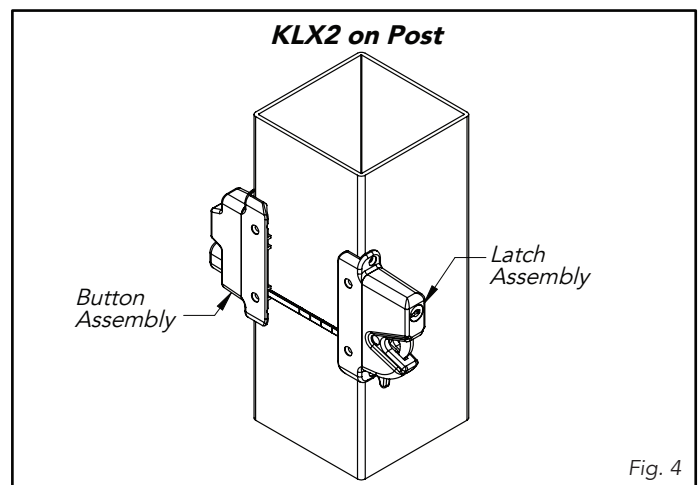

Fig. 4
- Locate latch assembly at the desired height on the fence post, mark the center points of the mounting holes, and drill appropriate pilot holes for mounting screws. Insert spindle of button assembly into the provided slot of the mounting base of latch assembly and align to make sure spindle is properly inserted and leveled. Mark the center points of the mounting holes, and drill appropriate pilot holes for mounting screws (Fig. 4).